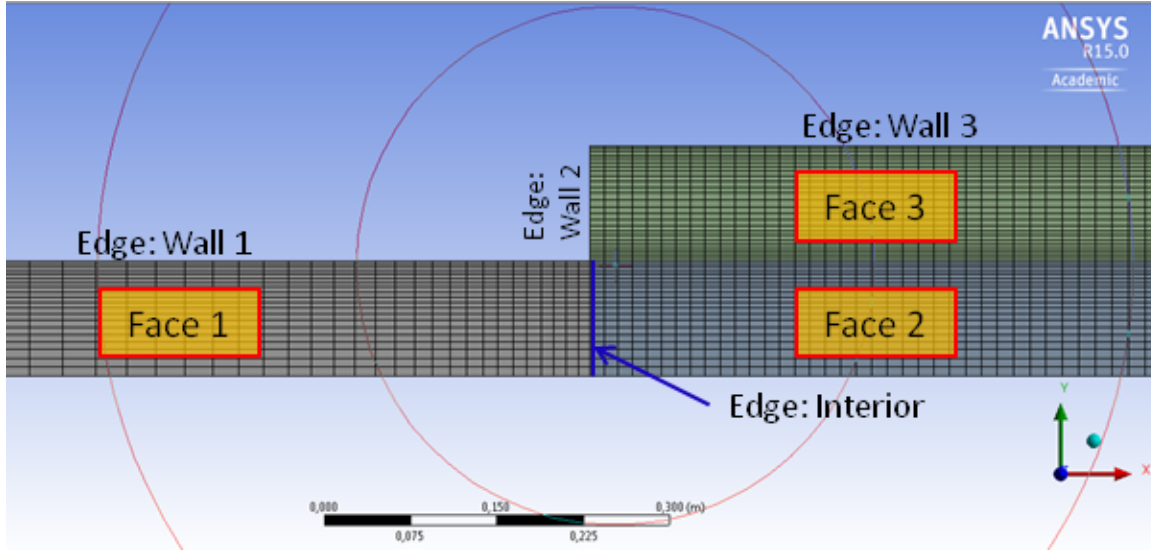

Figure 8: Zoom of the mesh near the singular expansion. Note that the mesh is refined near the walls and the salient corner. This mesh has 14300 cells.
The flaws of the “automatic” mesh of Fig. 7 is that the user does not control the mesh resolution in the vicinity of strong flow gradients, which are located in the boundary layers along solid walls and in the recirculation zone (see Fig. 1). Ansys Meshing allows various strategies for refining locally the mesh in selected areas of the computational domain. In this lab exercise, we will use the “bottom up” strategy to create a better quality mesh: first introduce a 1D meshing of the edges of the domain, then use a quad method to mesh the computational domain (which is called a *Face*, since it is 2D). The resulting mesh, shown in Fig. 8, is generated by the following steps:
Table 1: Sizing details for the edges shown in Fig. 8.
- 3) Preview the mesh by clicking on **Mesh** in the **Tree Outline**. If the mesh density is not similar to Fig. 8 or the grid lines are not parallel to the axes, you certainly made a mistake in some edge sizing details. In this case, delete the mesh⁷, review your edge sizings and generate again the mesh of Face 1.